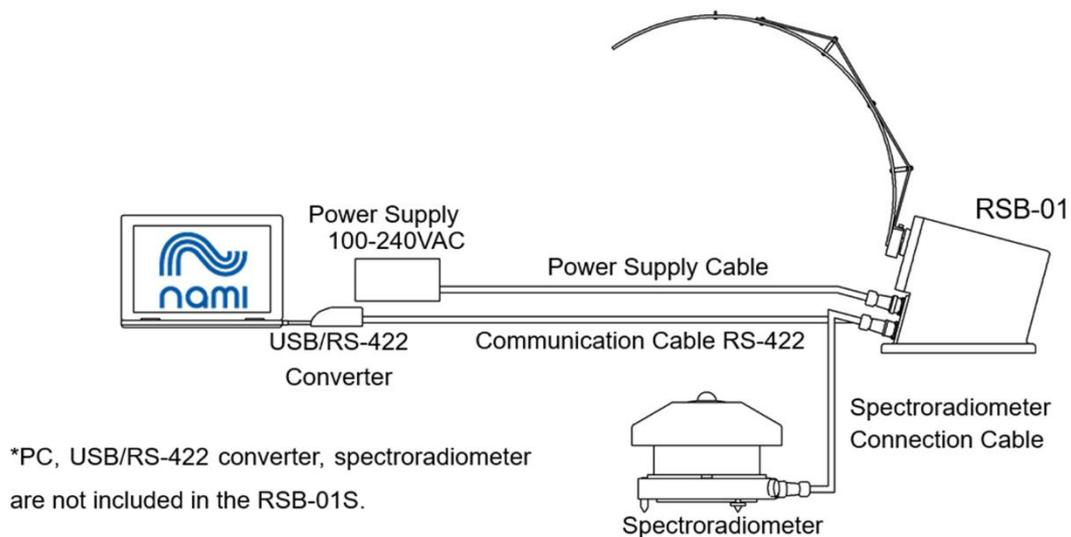

Fig.2-1-2. Connection with RSB-01
2. Single shot measurements and interval measurements using the MS-711 with RSB-01 (Fig. 2-1-2)